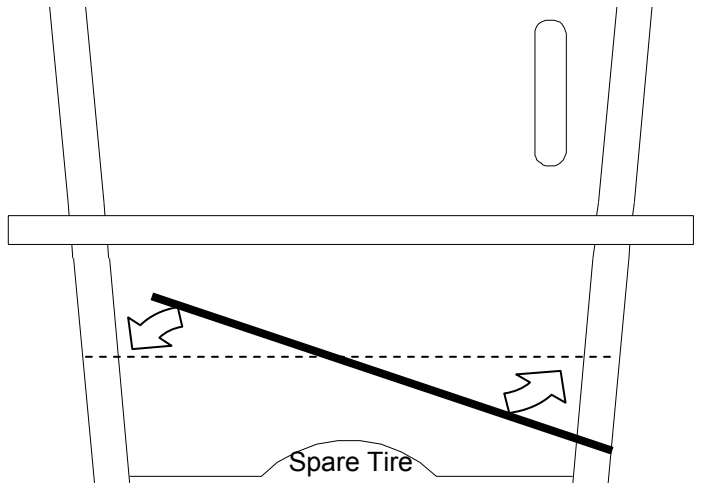

Figure 12
Step 4 : Rotate the rear base rail to bring the rail to rest on the chassis rails. (Figure 12)